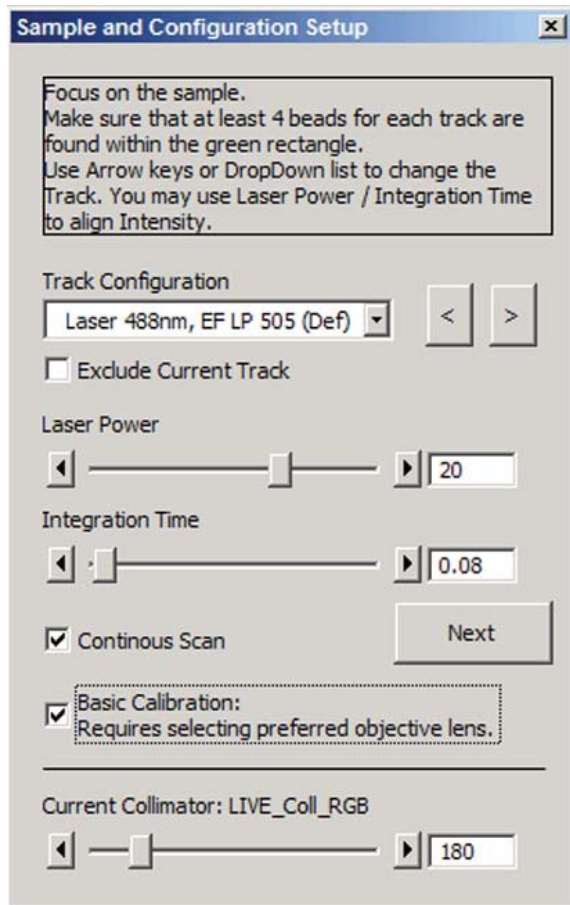

Fig. 5-10 Figure Sample and Configuration Setup Window of the KollIMatic Macro
- In Fig. 5-10, the Basic Calibration has been selected (Check box **Basic Calibration: Requires selecting preferred objective lens.**), therefore some more tracks are available